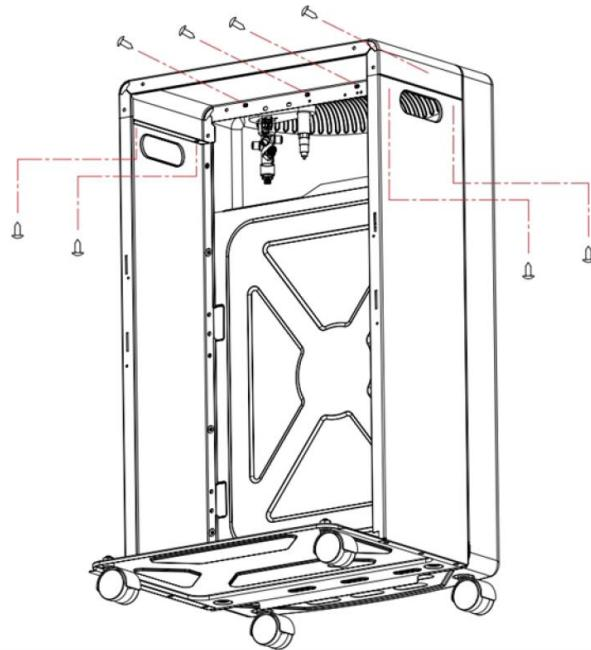

Fig. 4
4. Attach the top panel (5) to the left and right sides with 8 x 4*8 mm screws (see fig. 4)